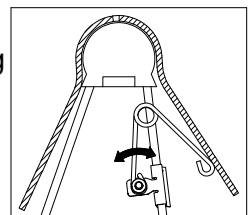

FIGURE E2: Cutaway view of driver side pivot arm and saddle.
2. Adjust the resting angle of your coupler plate by rotating the spring on the driver side pivot arm. Pulling the top of the spring away from the cab will increase the angle of the coupler plate. Set the angle of the coupler so that head will tilt away from the cab when coupling, see figure E2. Tighten the 1/4" nut once the spring's orientation is set.